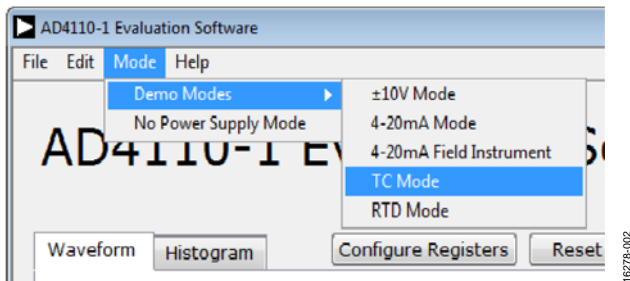

Figure 3. Demo Modes Dropdown Menu
7. From the main window menu bar, select the required demo mode configuration, as shown in Figure 3.
In the main window menu bar, click **Mode**, and then **Demo Modes**, and select the type of sensor connected to the input (see Figure 3).